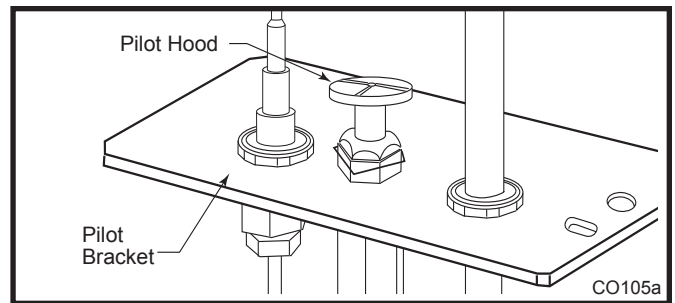

Fig. 68 Remove pilot hood.
- Remove pilot hood by lifting up. (Fig. 68) Do not remove the snap ring to remove the pilot hood.